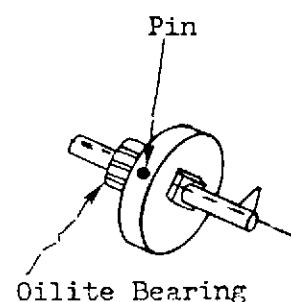

FIG. 13
2. Starting with serial number 921-1652, the Supply Spindle hub was pinned to the bearing. If projector is below this serial number, replace with new pinned Supply Spindle. (Refer to Fig. 13) #53612-3A Supply Spindle Ass'y